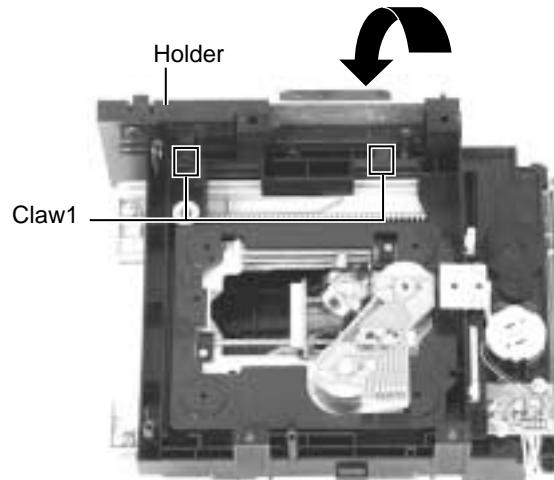

Fig.6
■ Removing the holder & DVD MPEG board (See Fig.6 and 7)